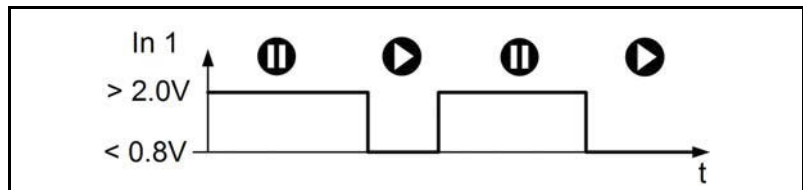

Fig. 61: Start / Stop level actuation
- ➔ The pump will start to operate if the level is below 0.8 V, and stop if it is above 2.0 V (see Fig. 61).